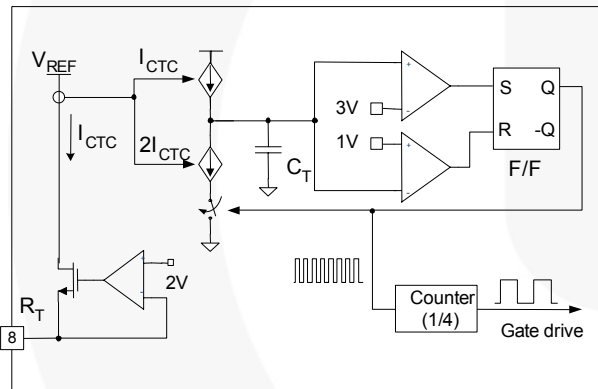

Figure 17. Current Controlled Oscillator
**2. Internal Oscillator:** FAN7621B employs a current-controlled oscillator, as shown in Figure 17. Internally, the voltage of  $R_T$  pin is regulated at 2V and the charging / discharging current for the oscillator capacitor,  $C_T$ , is obtained by copying the current flowing out of  $R_T$  pin ( $I_{CTC}$ ) using a current mirror. Therefore, the switching frequency increases as  $I_{CTC}$  increases.